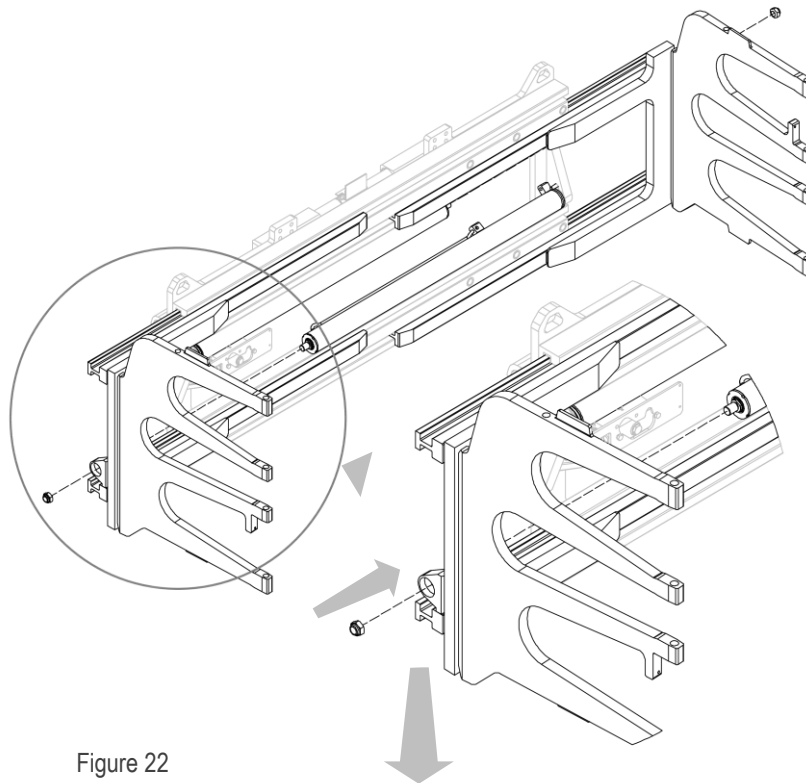
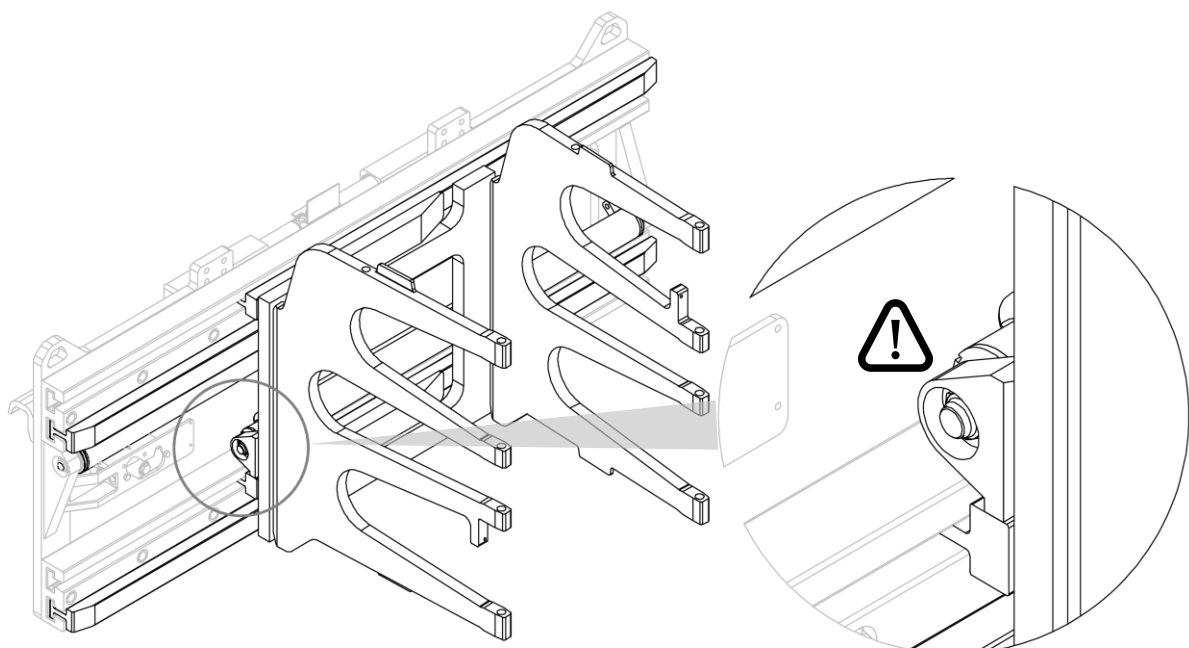

Figure 22
Figure 23
2. Insert the fork assembly, one at a time, into their appropriate housings and tighten the nuts that secure them to the cylinders (see *Figure 22* and *Figure 23*).